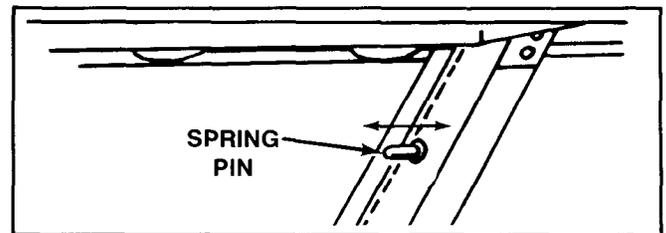

Figure 5B. Step One.
**STEP 1** - Remove front glass panel(s) first. Depress spring pins on corner posts and tilt glass outward. See Figure 5B.